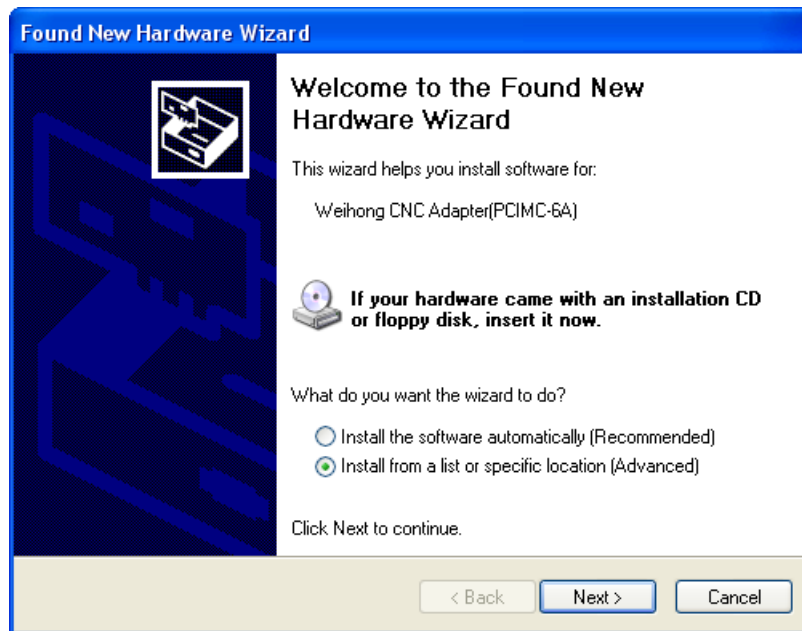

Fig. 2-7 Hardware update interface
- 2) A dialog box as Fig. 2-7 will pop up. Select “Install from a list of specific location (Advanced)”, click [Next] to continue.